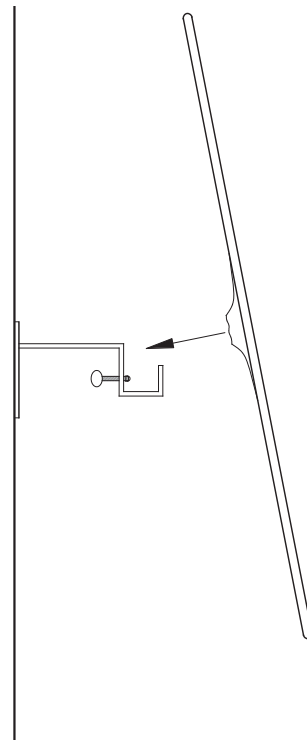

Figure 2. Hanging glass *Pool* object on hook
- 5 With the hook mounted to the wall in the location chosen, back the thumbscrew almost all the way out, making sure to stop before forcing off the small rubber cap on the end of the screw thread. Orient the *Pool* wallpiece such that the side where the glass protrudes at the central opening will be facing the wall, and gently hang it on the hook such that the hook goes through the central hole (*Figure 2*).